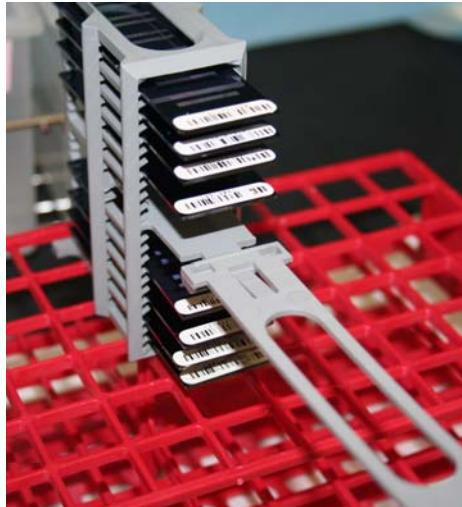

Figure 149 Staining Rack in Correct Orientation
16. Remove the staining rack in one smooth, rapid motion and place it directly on the prepared tube rack, making sure the barcodes **face upwards** and the locking arms and tab **face down** (Figure 149).